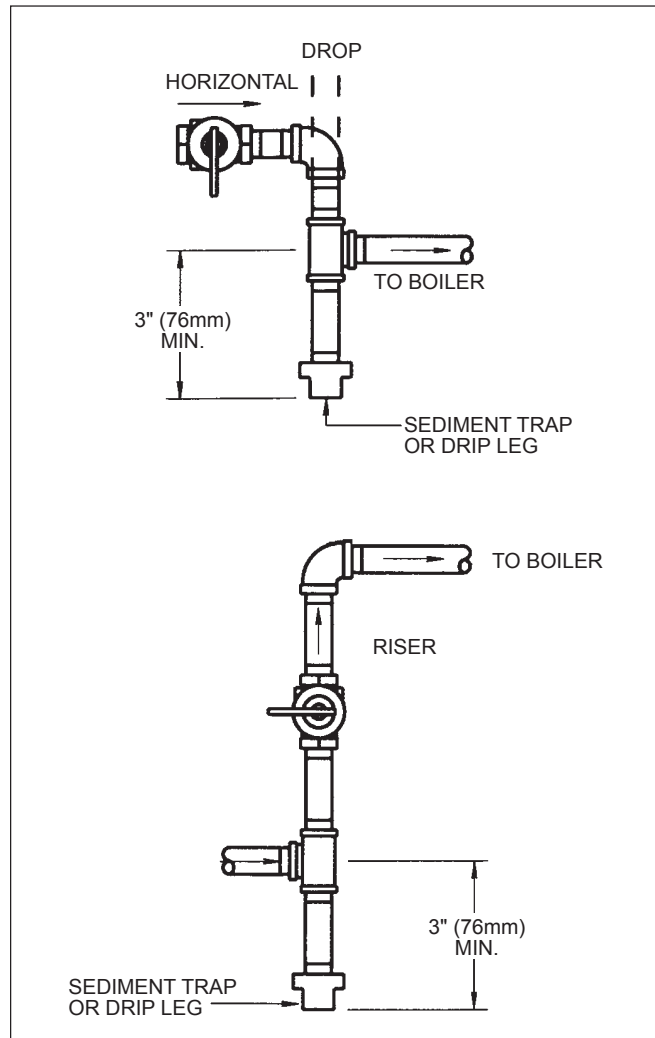

Figure 8. Gas Supply Piping.
4. A sediment trap (drip leg) must be installed ahead of the gas controls (see Figure 8). Fit the trap with a threaded cap which can be removed for cleaning.